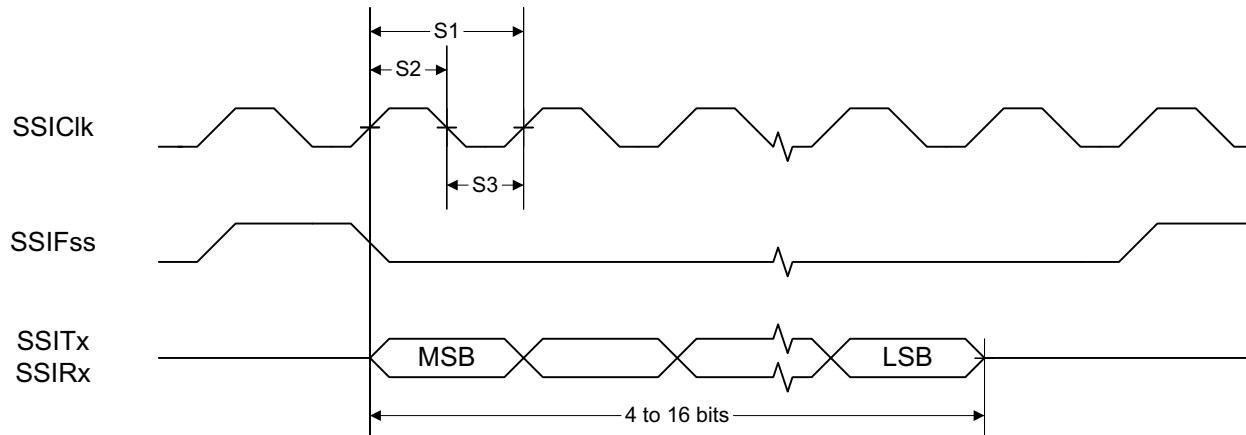
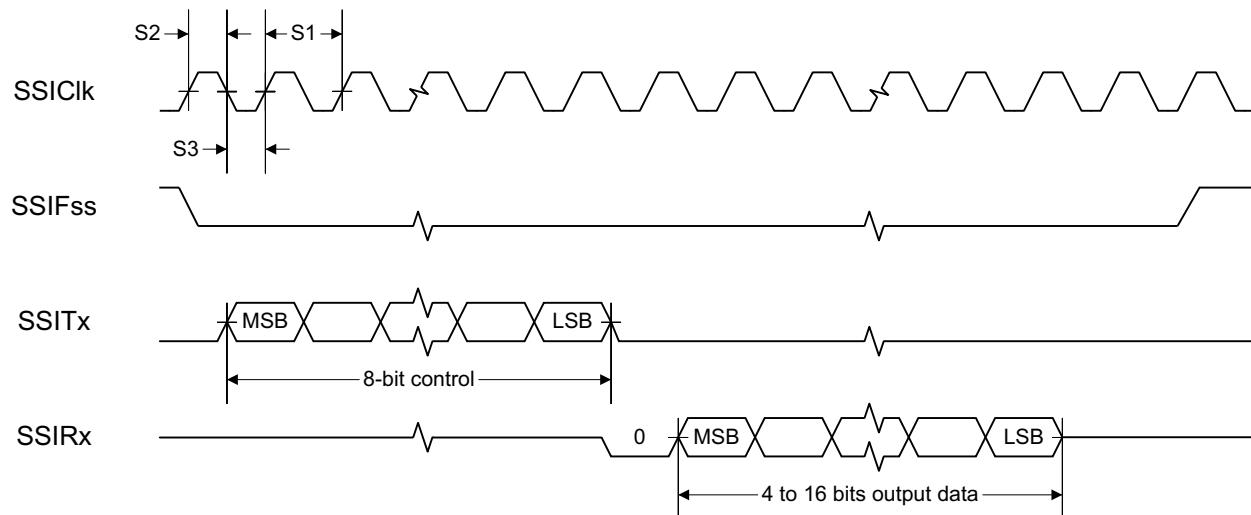
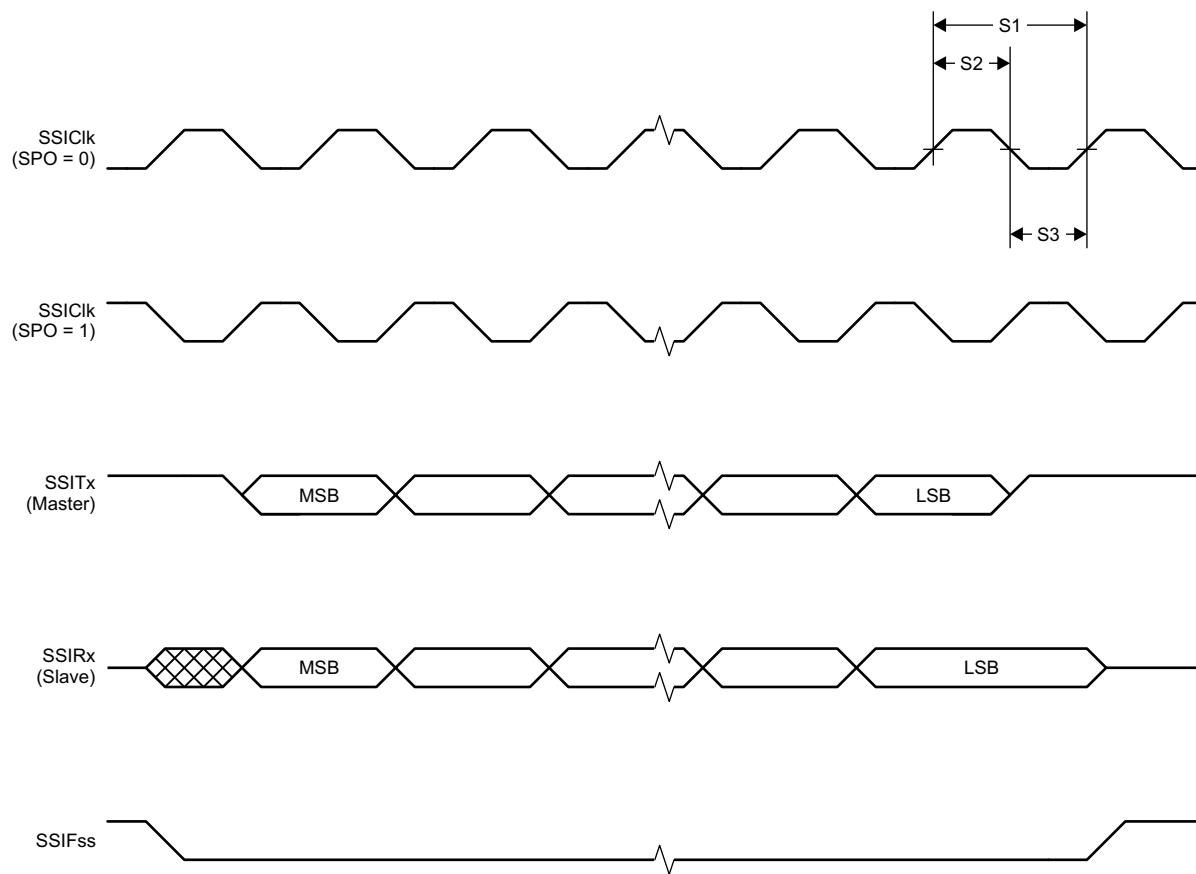

Figure 5-1. SSI Timing for TI Frame Format (FRF = 01), Single Transfer Timing Measurement
Figure 5-2. SSI Timing for MICROWIRE Frame Format (FRF = 10), Single Transfer
Figure 5-3. SSI Timing for SPI Frame Format (FRF = 00), With SPH = 1
- (2) Applications using RCOSC_LF as sleep timer must also consider the drift in frequency caused by a change in temperature (see Section 5.13).
- (3) $T_A = -40^\circ\text{C}$ to 85°C , $V_{DDS} = 1.7$ V to 3.8 V, unless otherwise noted.
- (4) $T_c = 25^\circ\text{C}$, $V_{DDS} = 3.0$ V, unless otherwise noted. Device operating as SLAVE. For SSI MASTER operation, see Section 5.23.
- (5) Refer to SSI timing diagrams Figure 5-1, Figure 5-2, and Figure 5-3.
- (1) Device operating as MASTER. For SSI SLAVE operation, see Section 5.22.
- (2) Refer to SSI timing diagrams Figure 5-1, Figure 5-2, and Figure 5-3.